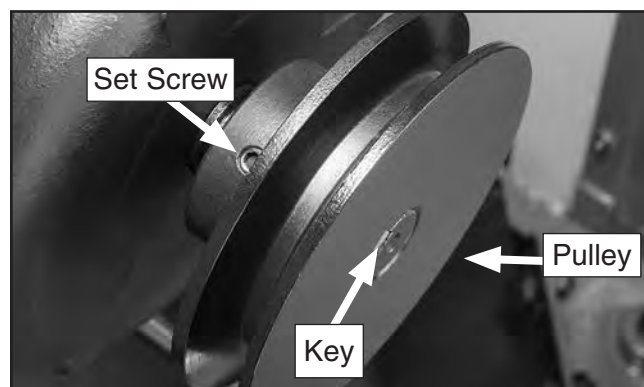

Figure 14. Motor pulley installed.
8. Slide the pulley onto the motor shaft so the pulley is flush with the shaft end, then tighten the set screws, as shown in **Figure 14**.